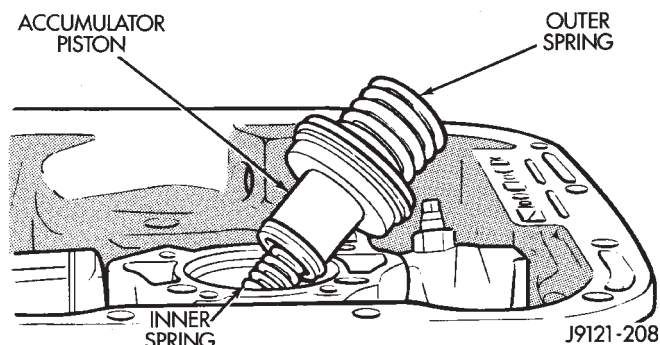

Fig. 90 Accumulator Piston And Springs
(11) Remove accumulator piston and inner and outer springs (Fig. 90).
(12) Remove pump oil seal with suitable pry tool or slide-hammer mounted screw.